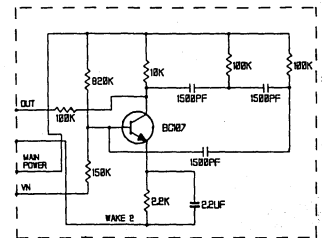

Fig. 20 SINE-WAVE OSC
- Option 2 (Fig.20) Sine wave generation independent of radio